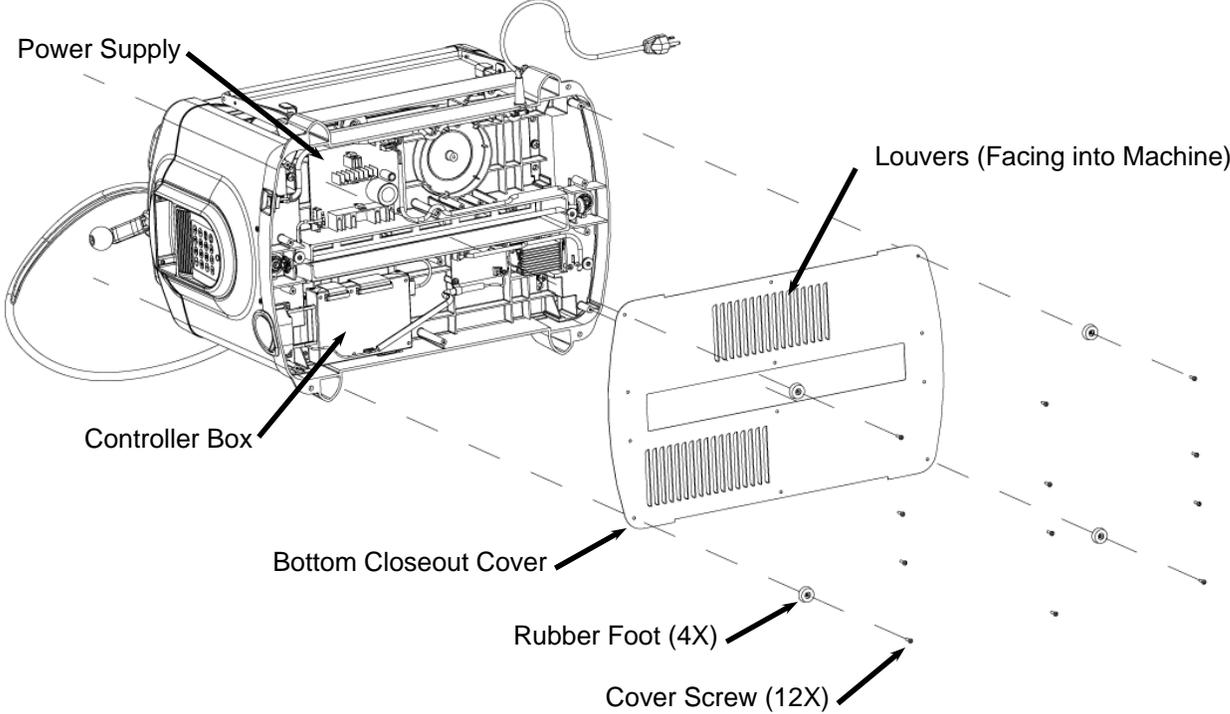

FIGURE 13: REMOVAL OF THE BOTTOM COVER
6. **Replace the bottom cover.** Replace the metal cover with the louvers pointing into the machine (see Figure 13). Insert and tighten the 12 screws. The four rubber feet are placed at the corners of the machine.